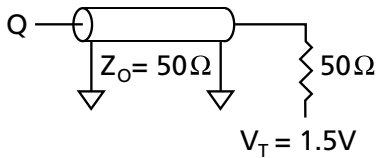
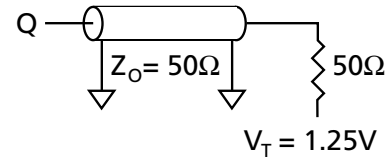

Figure 1
Figure 3
9. Test conditions as specified with output loading shown in Figure 1 for 3.3V I/O (V_{DDQ} = +3.3V ±0.165V) and Figure 3 for 2.5V I/O (V_{DDQ} = +2.5V +0.4V/-0.125V).
Output load	See Figures 1 and 2
Output load	See Figures 3 and 4